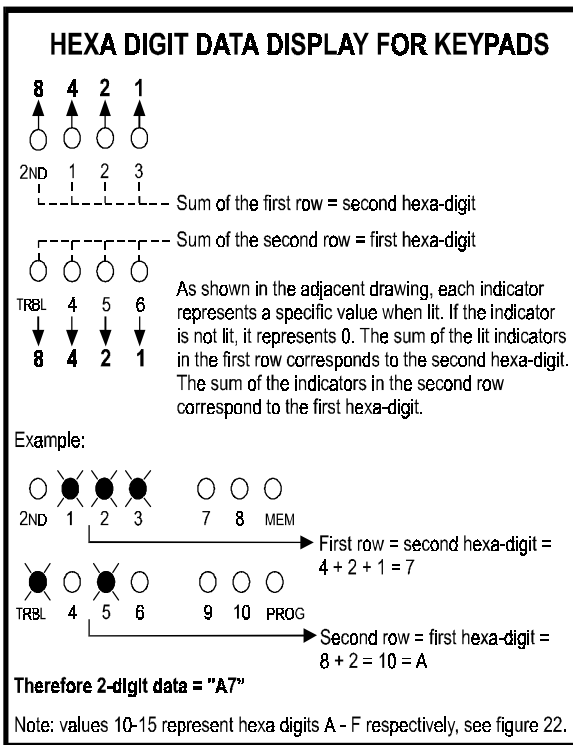

FIGURE 2
- 4) The keypad will display the 2-digit data currently saved at this address as described in figure 2